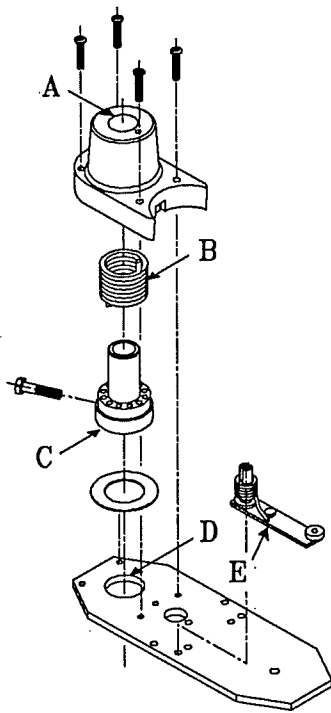
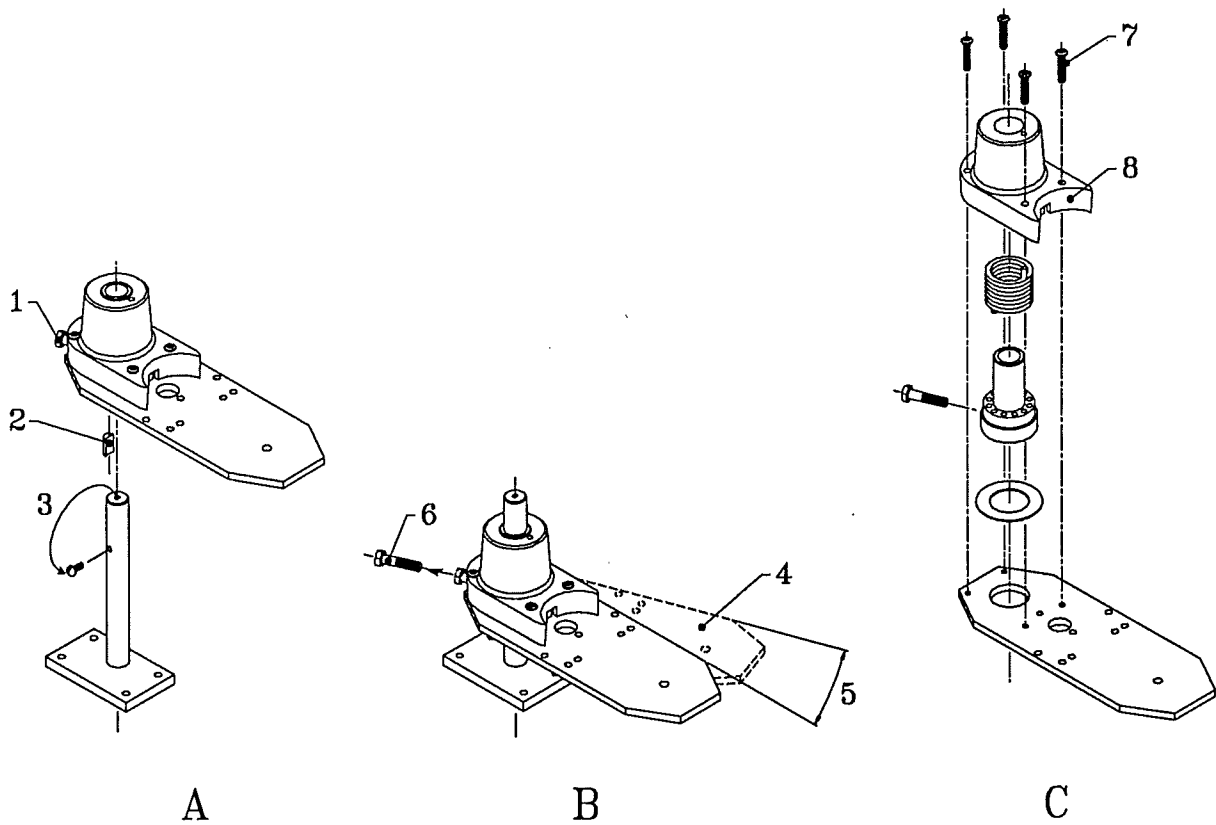

Figure 11 : Greasing points
Figure 12 : Greasing the coder
3.7.4 Checking the greasing points (see figure 11)
(see figures 11 and 12)
1. Take the coder from the support removing the bolt (1).
2. Remove the pressure plate (2).
3. Turn loose the screw (3) at the upper side of the support and screw it into the hole at the reverse side of the support.
4. Place the coder in such a way on the support, that the screw head will fall into the notch of the pressure plate (see figure 12).
6. Remove the bolt (6).
8. Remove the four bolts (7)
9. Remove the cover (8).
10. Grease points A, B, C en D with grease (see figure 11)